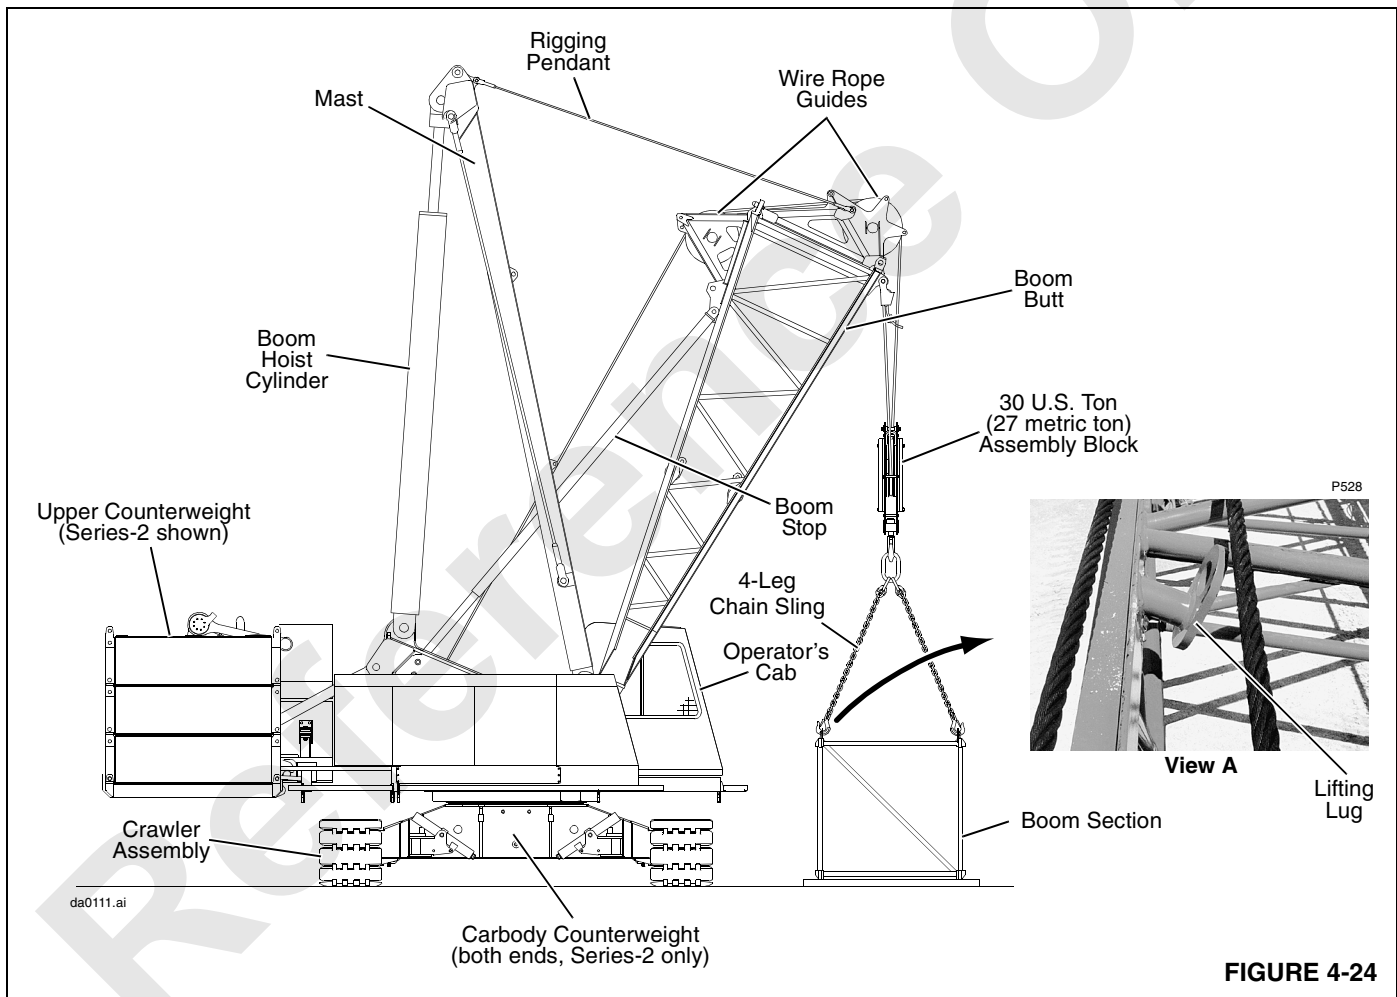

FIGURE 4-24
- Crane rigged as shown in Figure 4-24.
Handle boom sections with care. Four lifting lugs are provided on each section for handling with hooks, chain sling, or slings (Figure 4-24).